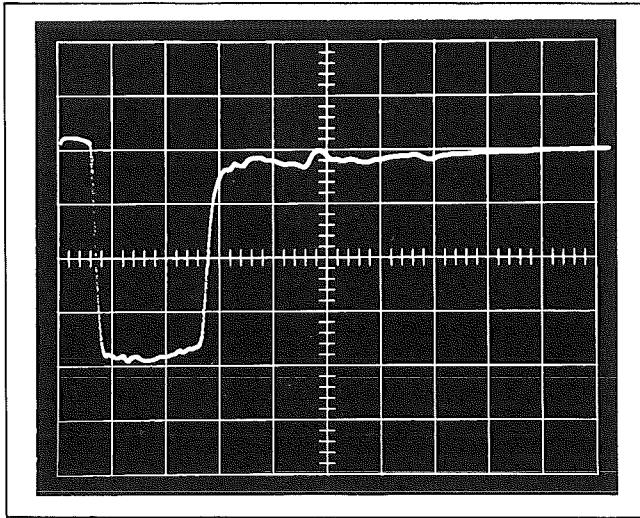
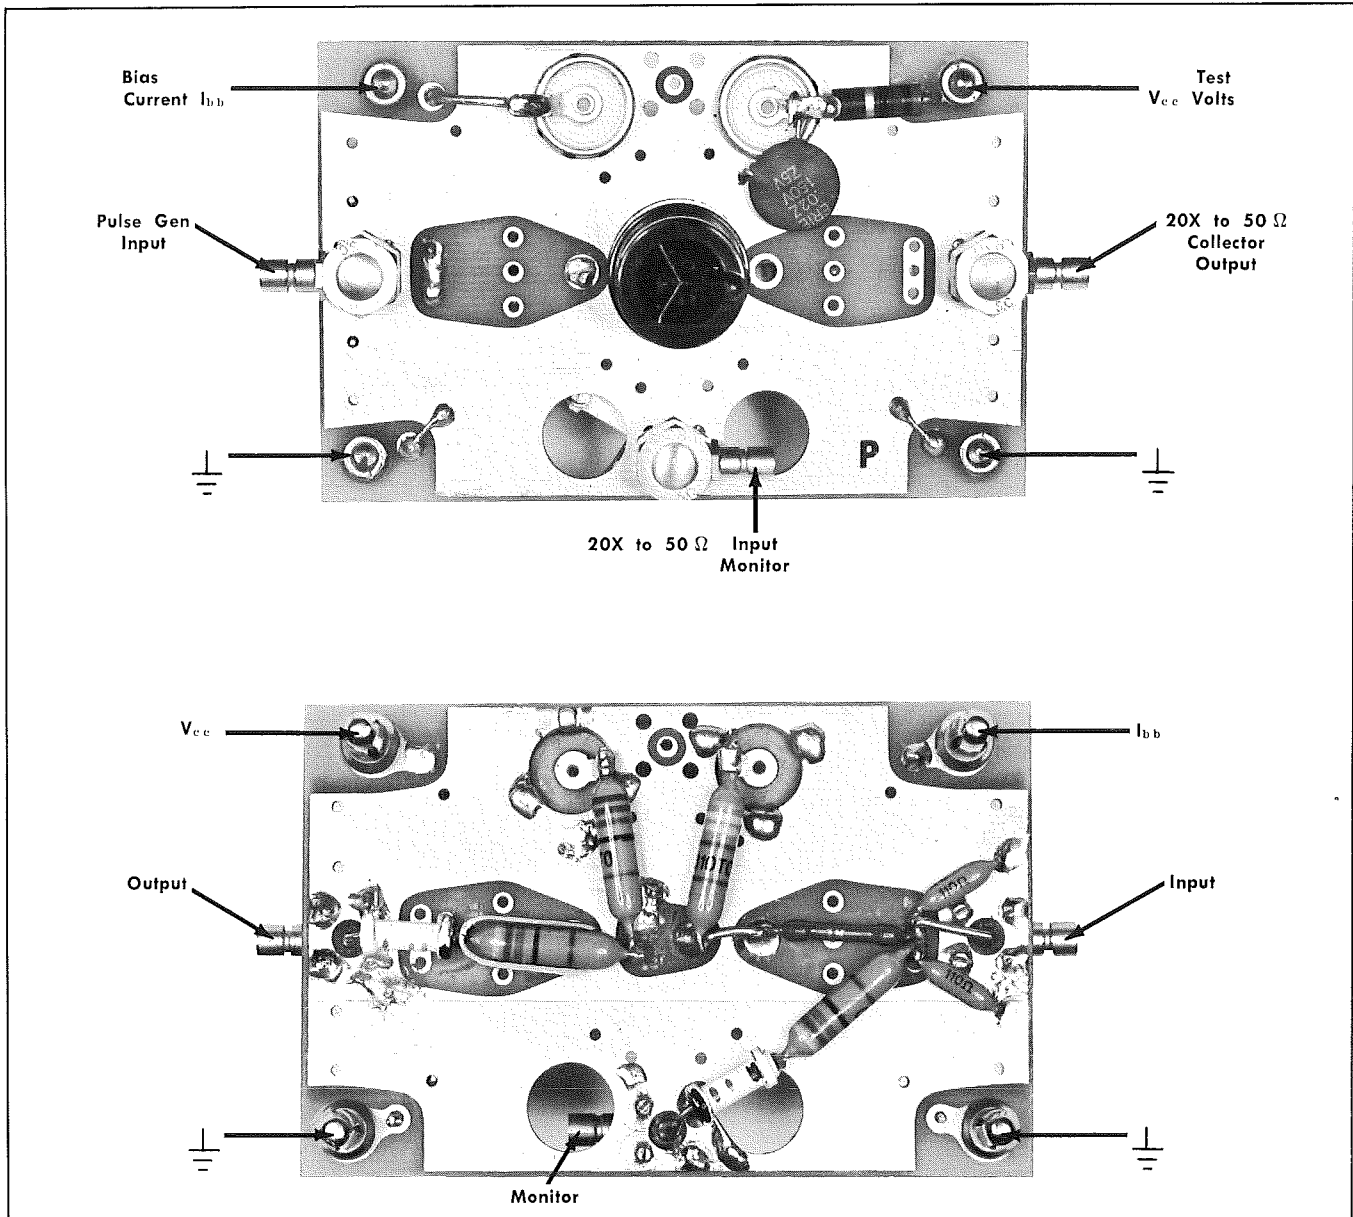
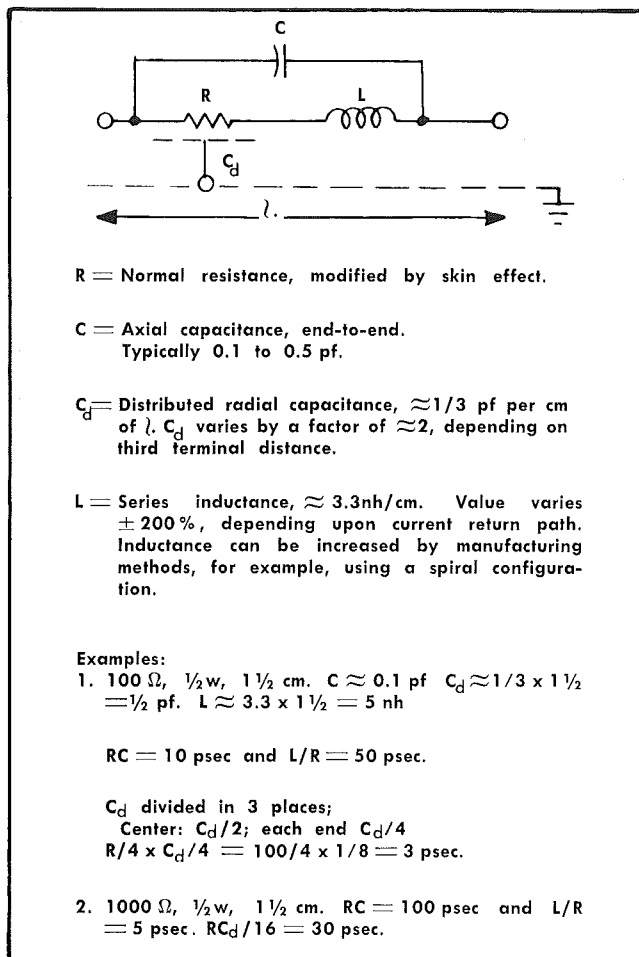
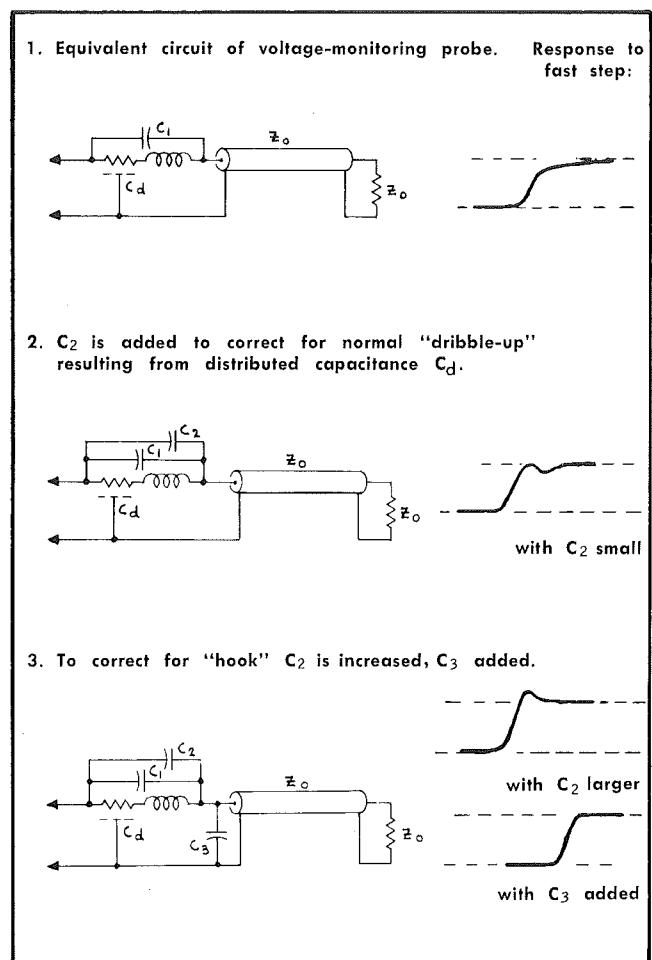

Fig. 2-9. The switching pulse applied to the transistor base.
Fig. 2-14. Test fixture wired as grounded-emitter test circuit diagramed in Figs. 2-15 and 2-16.
Fig. 2-19. Equivalent circuit and environment of a deposited carbon resistor.
Fig. 2-20. Fractional nanosecond compensation of low resistance passive probes.
2. Obtain a free-running sweep on the oscilloscope, and vertically position the trace to a convenient graticule line. This establishes the zero collector-volts reference line; therefore, do not adjust the vertical position control during the remainder of this procedure. (For dual-trace test systems, display only the one signal from the test fixture collector connector for the entire procedure. See Fig. 2-14.)
2. Turn the pulse generator on and set the oscilloscope controls for a display similar to that shown in Fig. 2-9 at the test fixture monitor jack (Fig. 2-14).
2. Turn the pulse generator on and set the oscilloscope controls for a display similar to that shown in Fig. 2-9.
Figs. 2-14, 2-15, and 2-16 show the test fixture (shipped with Type 292) wired for grounded-emitter circuit transistor testing. Items of special note for construction techniques are as follows.
Voltage-sensing, "non-loading" probes can be grouped into the four basic categories shown in Fig. 2-18. Since a removable probe must be designed with the same electrical parameters as a built-in probe, no distinction will be made between the two. Single and double terminated passive probes (Types 1.A.1. and 1.A.2. of Fig. 2-18) are of primary interest because of the good high-speed response. Small passive probes (Type 1.A.1. of Fig. 2-18) are available with risetimes of 100 picoseconds and 200 picoseconds, such as built into the test fixture of Fig. 2-14.
Major limiting factors, when building attenuator probes, are the resistor characteristics at fractional nanosecond speeds. Fig. 2-19 shows the equivalent circuit of a deposited carbon resistor with normal axial leads. Because of these equivalent circuit characteristics, frequency compensation of the terminated cable probe of Fig. 2-18(1.A) requires the special construction techniques shown in Fig. 2-20. The probe built into the test fixture of Fig. 2-14 is accurately represented by Fig. 2-20 (3).